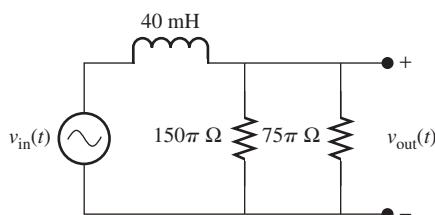

FIGURE P7.10 Circuit for Problem 7.10.
- 7.10** (A) What is the transfer function and the output voltage for the circuit in Figure P7.10 given the input voltage is $v_{in}(t) = 10 + 8 \cos(50\pi t - 90^\circ) + 4 \cos(100\pi t + 60^\circ)$?